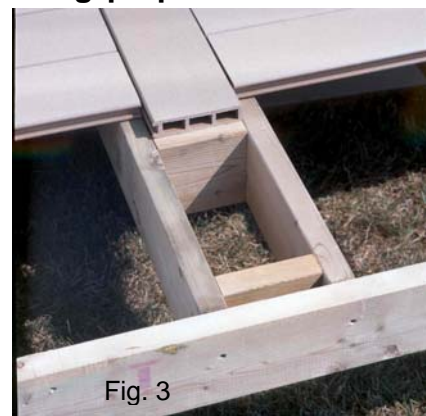

Fig. 3
It is important to note that all composite and plastic-based products will experience some degree of expansion and contraction with changes in temperature. Certain measures must be taken when building with these products to ensure an attractive finished project. Longer boards will experience a greater amount of expansion than shorter boards; eliminate butting boards end to end **by using perpendicular accent board (see page 7, Deck Surface Pattern)**. Deck should be designed to eliminate end-to-end joints (butt-joints) on deck surface so as not to exceed the length of one board. Design using shorter pieces (12' & shorter) to reduce the required end gap, and it will lessen the overall gap by half, when installed against the accent board. (See Fig. 3). Build deck at different levels (elevations) thereby eliminating any end to end joints. Make sure that each board is fastened securely at each end with 2 surface screws. One alternative is to build a deck with the Herringbone pattern, see page 7 (E). It will offer a striking visual effect and reduce the waste of deck boards.